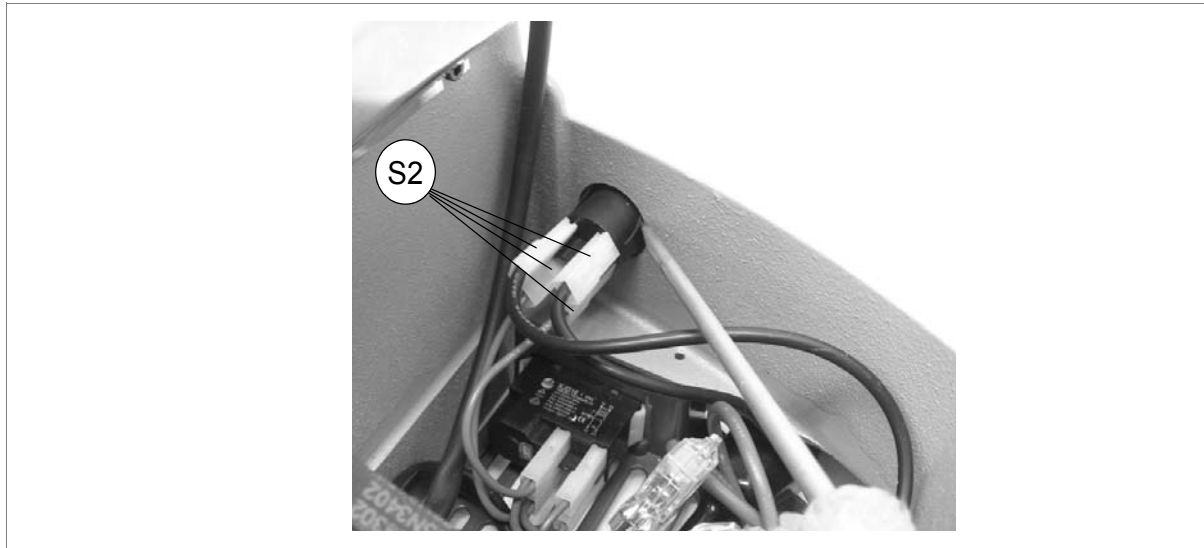
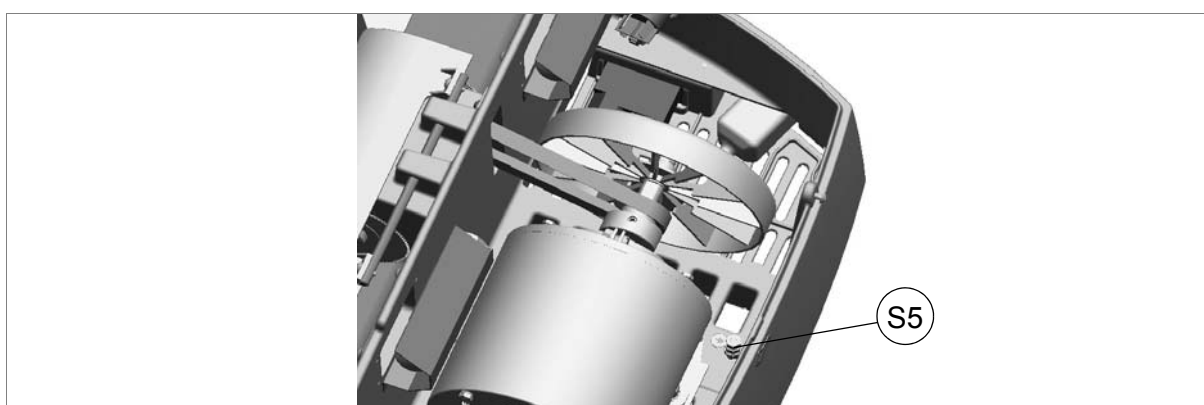

Fig. 58
Fig. 59
- 2) Detach the 4 connectors (S2) (fig. 58) paying special attention to their position.
- 2) Detach the 4 connectors (S2) from the motor ignition switch and condenser (fig.58, page 39).
- 3) Unscrew the earth cable nut (S5) (fig. 59).
- 10) Connect the 4 connectors (S2) (fig. 58) to the motor on switch and fit the earth cable to its screw with the nut (S5) (fig. 59).